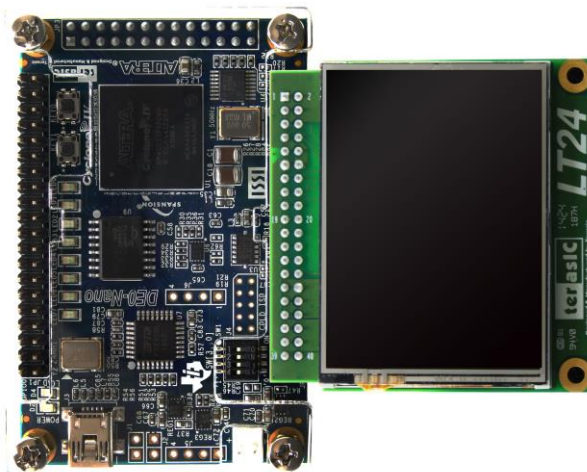

Figure 1-4 LT24 Assembled with DE0-Nano
3. Connect the LT24 to the GPIO header of DE0-Nano, as shown in Figure 1-4.